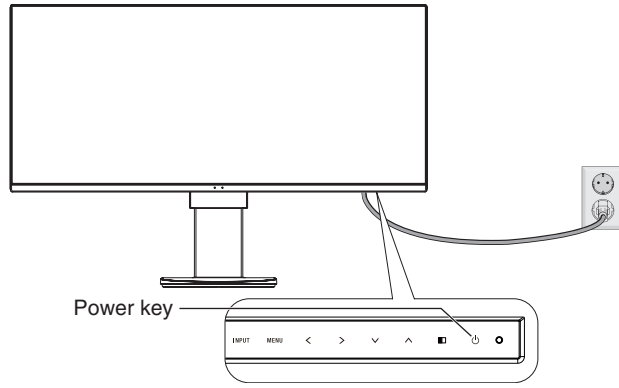

Figure E.1
8. Turn on the computer and the monitor by touching the power button on the front bezel (**Figure E.1**).